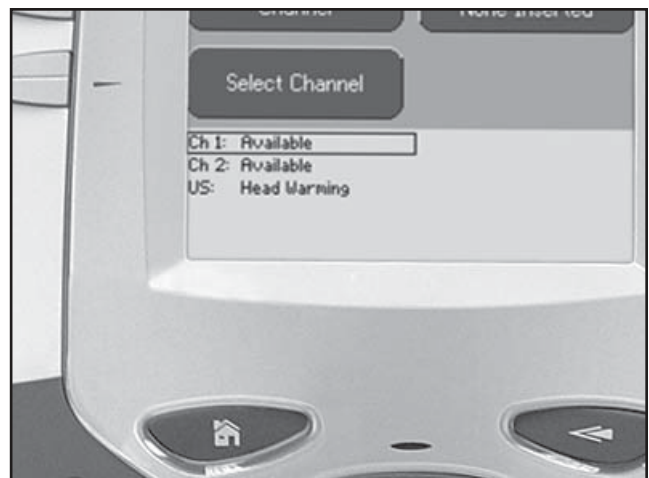

FIGURE 5.20
7. Press the Back Button. Turn System Off and Back On with Main Power Switch. After System boots, view the Ultrasound icon, Head Warming should be visible. **See Figure 5.20.**